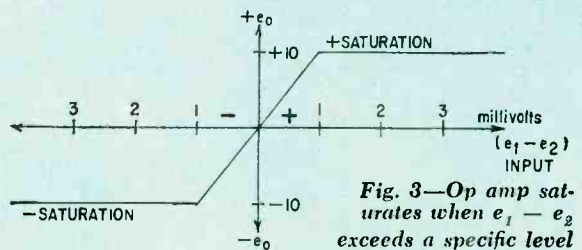

Fig. 3—Op amp saturates when $e_1 - e_2$ exceeds a specific level
At this point you might notice that if gain (A) is large—say 10,000—the output voltage will be rather large for very small input voltage differences. For example, if $(e_1 - e_2)$ was as small as +0.005 volt the output would be +50 volts. Since all amplifiers are capable only of a certain maximum output (say ± 10 volts in this case), clearly for input differences in excess of 1 mV the output voltage will not increase beyond 10 volts (Fig. 3).